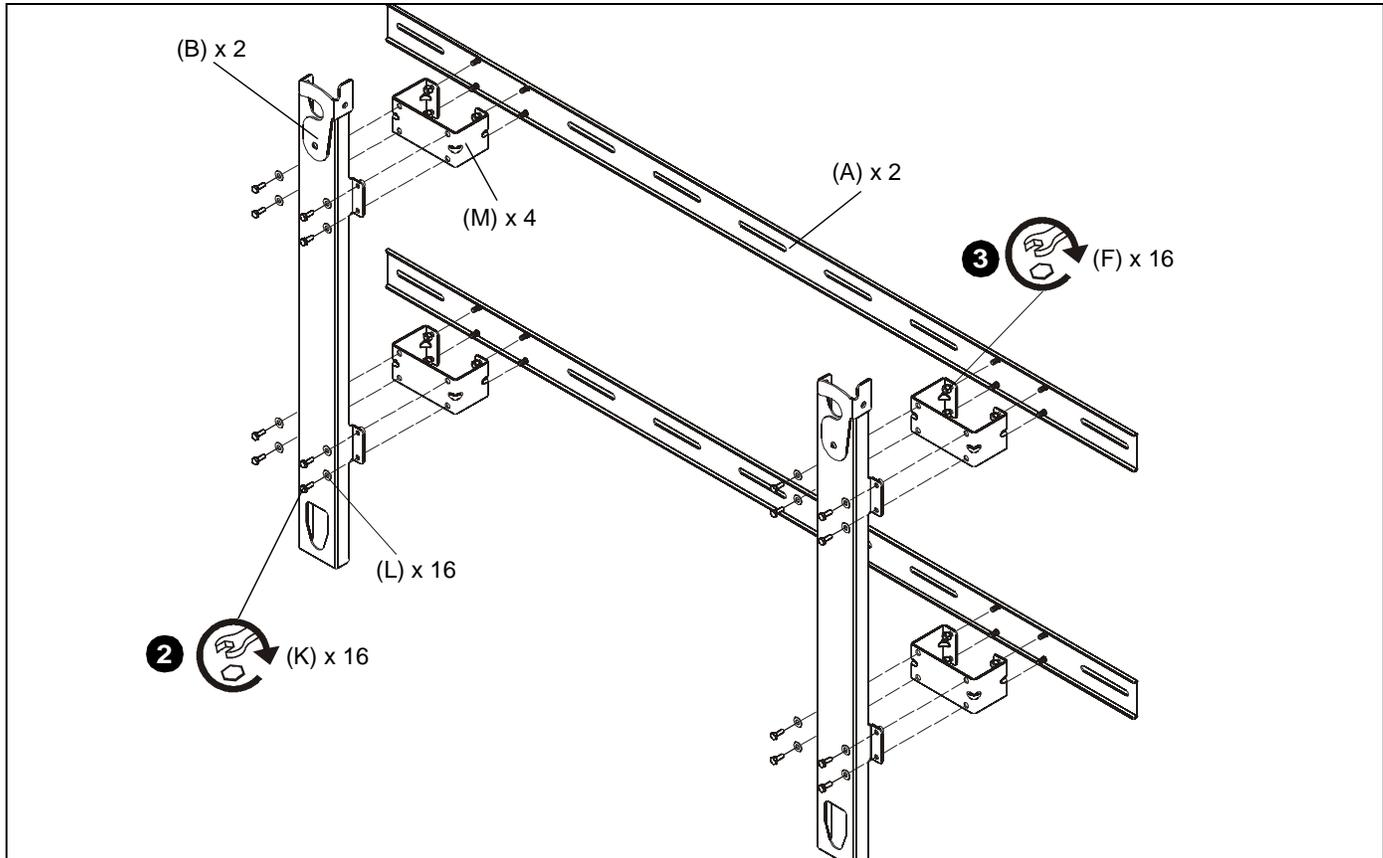

Figure 2
2. Attach two vertical brackets (B) to four offset brackets (M) using sixteen 5/16-18 x 3/4" hex head carriage screws (K) and sixteen 5/16" washers (L). (See Figure 2)
3. Attach four offset brackets (M) to two horizontal brackets (A) using sixteen 5/16" nylon lock nuts (F). (See Figure 2)